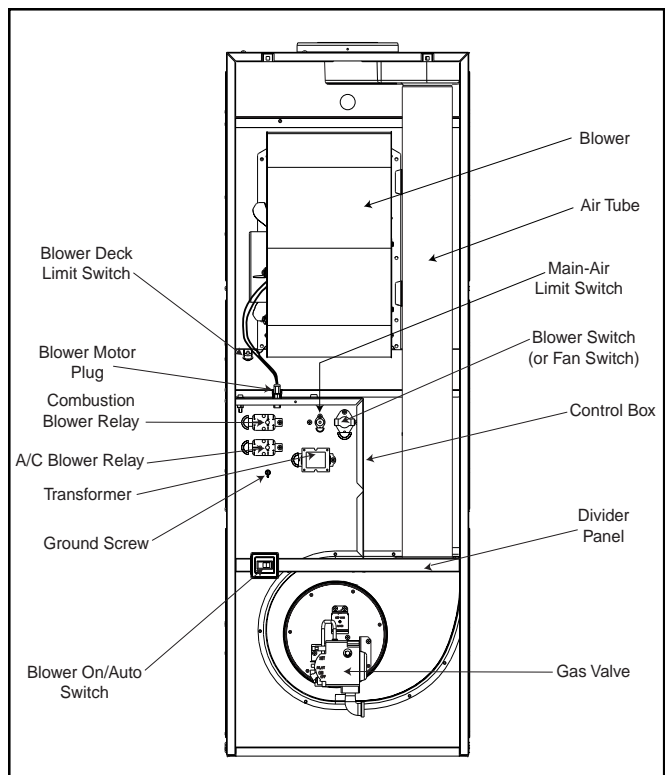

Figure 1. Typical M1G Series Furnace Without Combustion Fan
3. Remove the two fasteners from the base of the air tube that secure it to the divider panel, as shown in Figure 1.